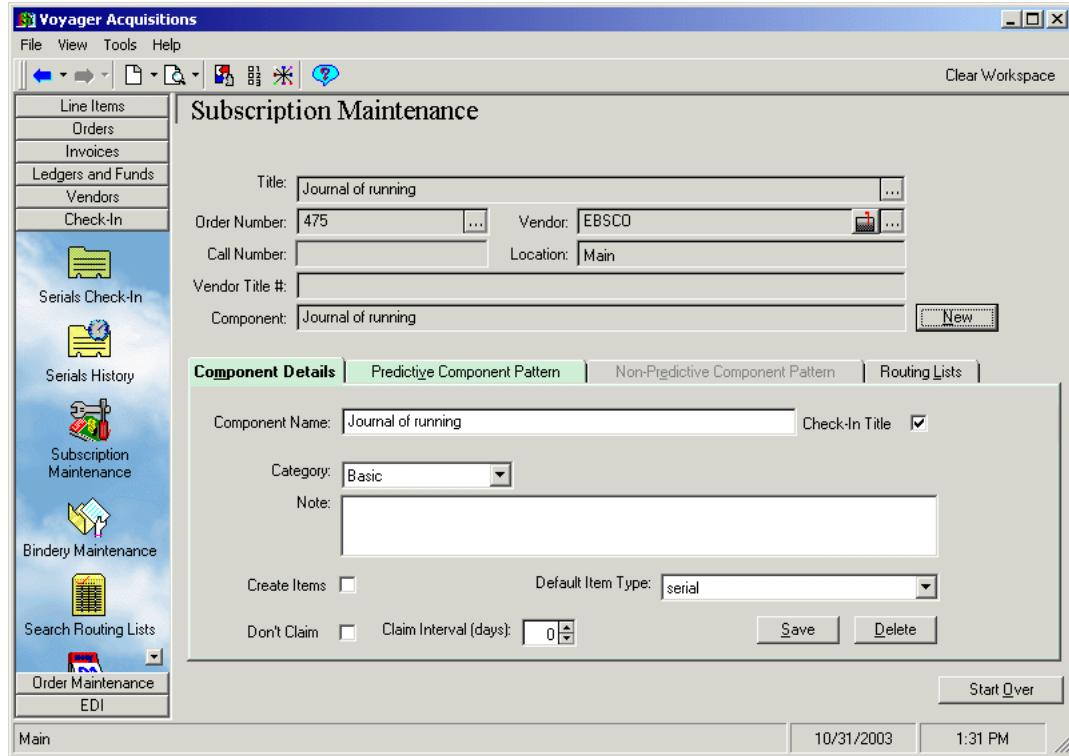

Figure 13-8. Subscription Maintenance workspace - ellipsis displayed beside the Title field
- The **ellipsis** button beside the **Title** field at the top of the **Subscription Maintenance** workspace (see Figure 13-8). See Subscription Maintenance on page 8-1 for more information.